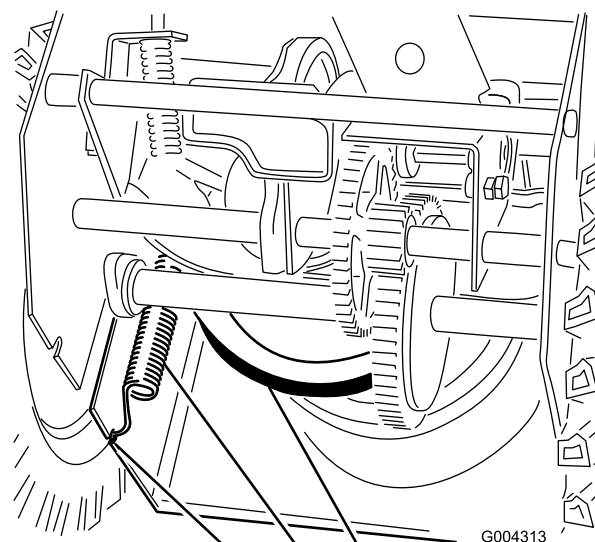

Figure 38
7. Disconnect the spring from the notch in the bottom edge of the side plate (Figure 38).
13. Hook the spring into the notch in the bottom edge of the side plate (Figure 38).